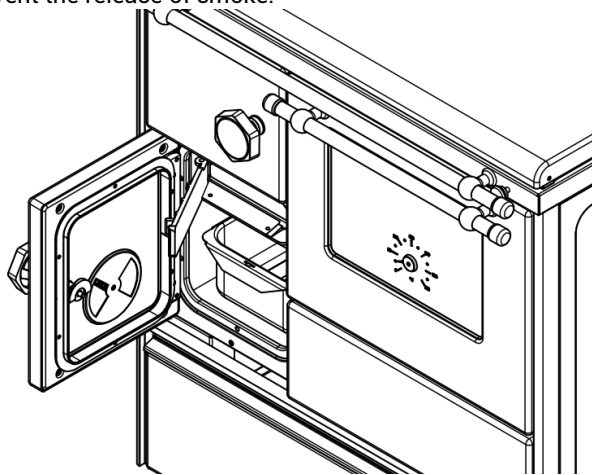

Figure 15
- Open the ash dump door, stoke by means of stoking cap (Figure 15)